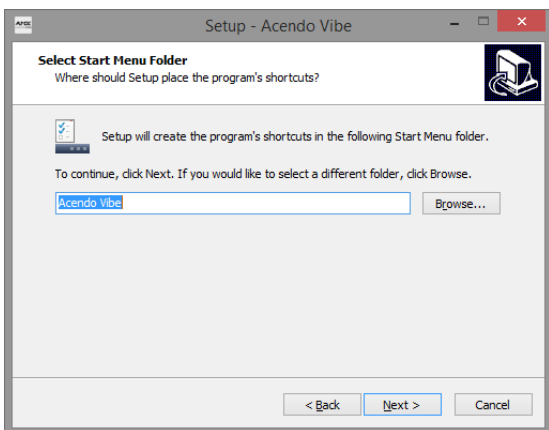

FIG. 22 Acendo Vibe Setup Wizard - Select Start Menu Folder dialog
- d. Select a Start Menu folder folder for this installation (or leave the default folder setting) and click **Next** to proceed (FIG. 22):